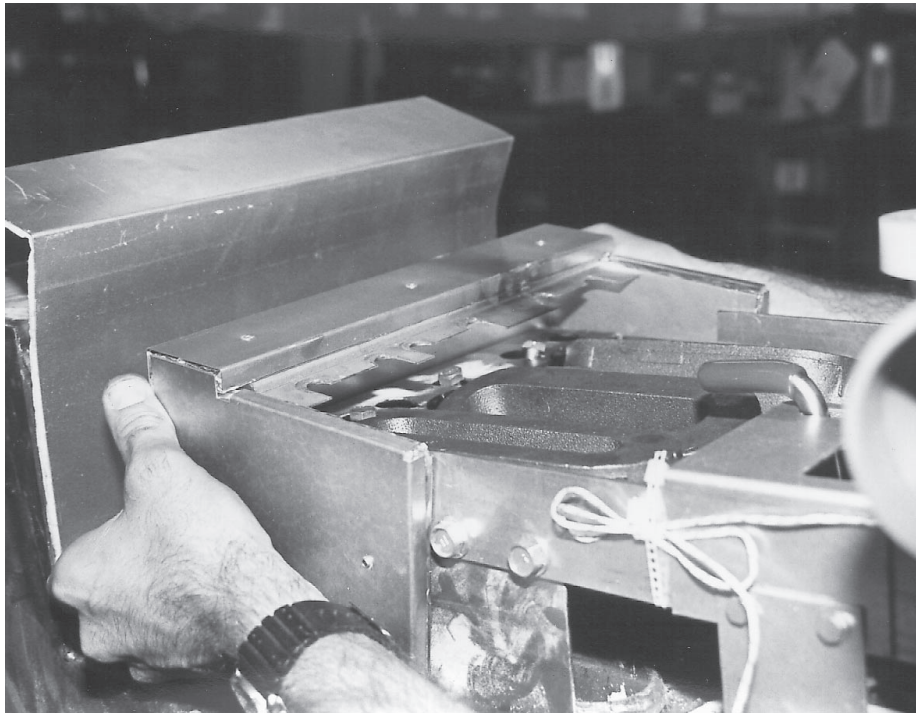

Fig. 79
17. Remove the burner insulation box. (Fig. 79)